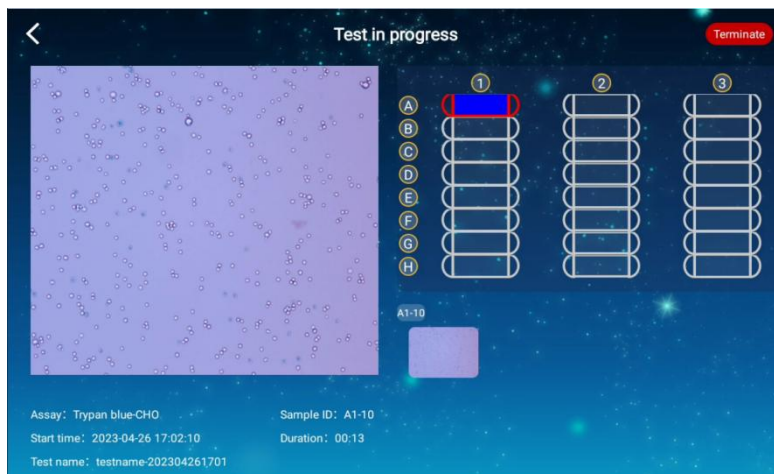

Fig. 2.17 Life view of the measurement progress displaying images and results
2.3.5 The Countstar® Mira HT starts the image recording and analysis of the field of view, displaying a camera symbol on the touchscreen, indicating that the image acquisition and analysis process is in progress. Additionally, thumbnails of already acquired images, and the current measurement information in real time is displayed, as shown in **Fig. 2.17**. The analyzer will automatically move forward the Countstar® chamber slide to its next image acquisition position without any user interaction necessary, until, in all chambers selected, the programmed number of views are photographed and analyzed.
2.3.6 To interrupt a running measurement process, the user can click the red "Terminate" button at the upper right of the touchscreen (**Fig. 2.17**) and a system prompt appears, asking: "Do you want to cancel the experiment? " (see **Fig. 2.18**) If the user selects **Confirm**, he definitively terminates the experiment. When clicking on the "Cancel" icon, the Countstar® Mira HT will continue the test sequence up to its defined schedule.